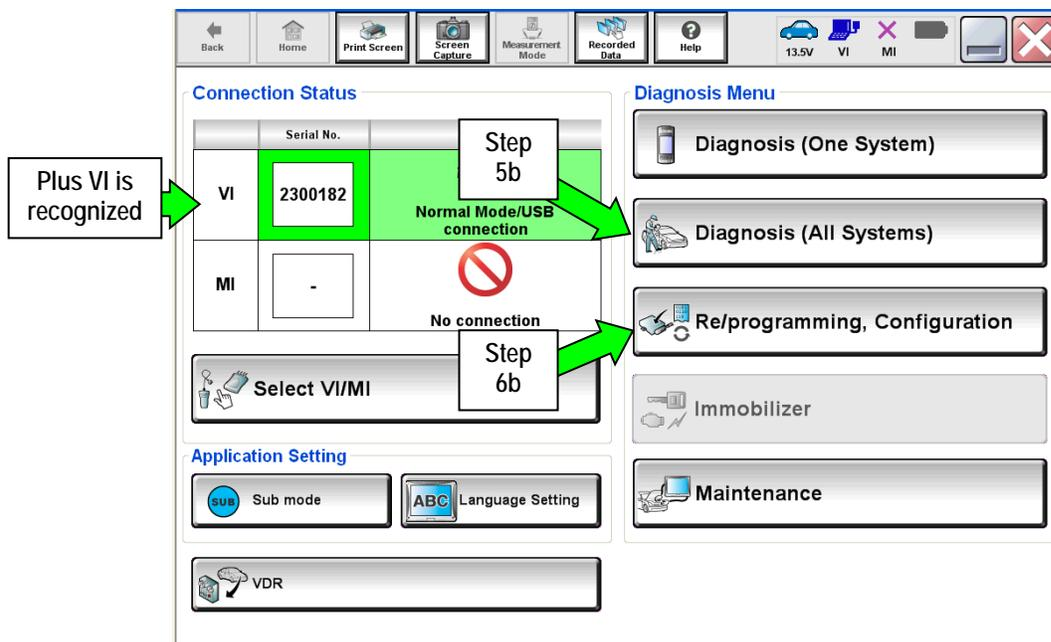

Figure 1
- Select the **Home** button, and then select **YES** to return to the screen shown in Figure 1.